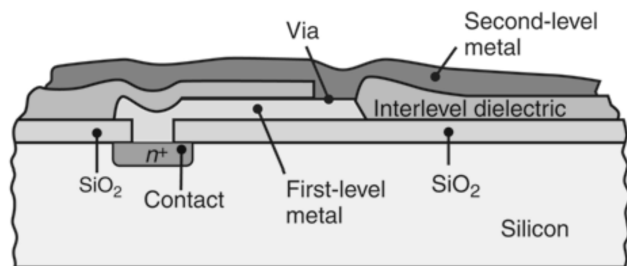

Figure 4[a]
4. [a] Figure 4[a] shown above is the two-level metal interconnect structure in which a layer of silicon dioxide (SiO_2) has been placed in between a first-level metal and a silicon substrate.